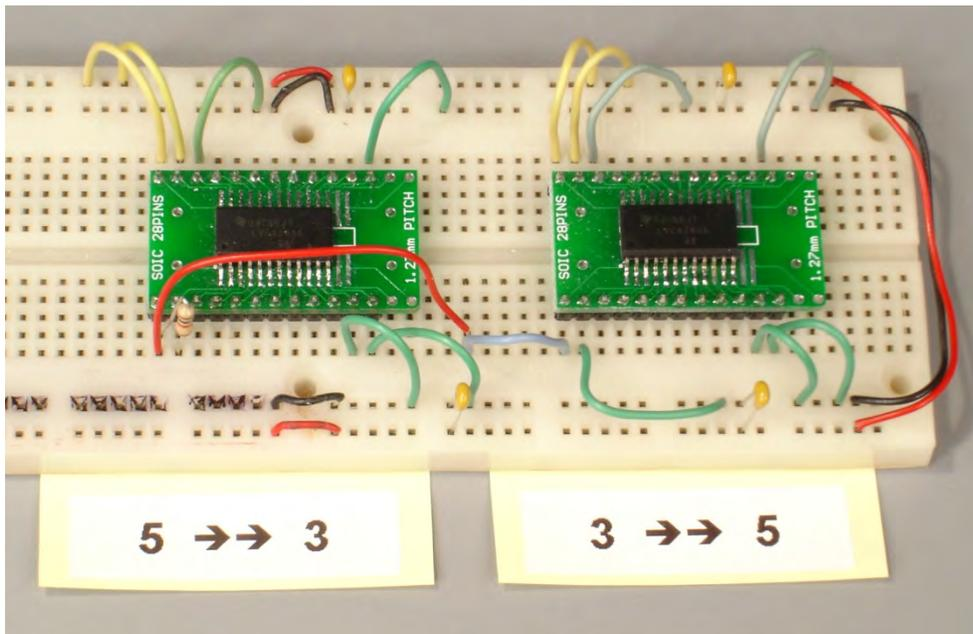

Figure 11.4.
- In my lab, I use the SN74LVC4245A "Octal Bus Transceiver and 3.3V to 5V Shifter with 3-State Outputs" IC that contains eight independent logic-level-conversion "channels." You can easily set all eight for 3.3-to-5-volt or 5-to-3.3-volt conversions (**Figure 11.4**). This IC comes in a 24-pin surface-mount package called a small-outline integrated circuit, or SOIC, so it *cannot* plug into a solderless breadboard. An inexpensive adapter solves this problem. SchmartBoard sells an SOIC-to-DIP adapter as part no. 204-0004-01 (\$US 6.00), which comes with pins. For more information, please visit: http://www.schmartboard.com/index.asp?page=products_smttodip. The company has a video that demonstrates how to use the SchmartBoard soldering technique. I have used these boards many times without any difficulties. You can purchase the SN74LVC4245 ICs from DigiKey and other distributors for about \$US 1.10. Buy several. For technical details, please visit: <http://www.ti.com/product/sn74lvc4245a>.